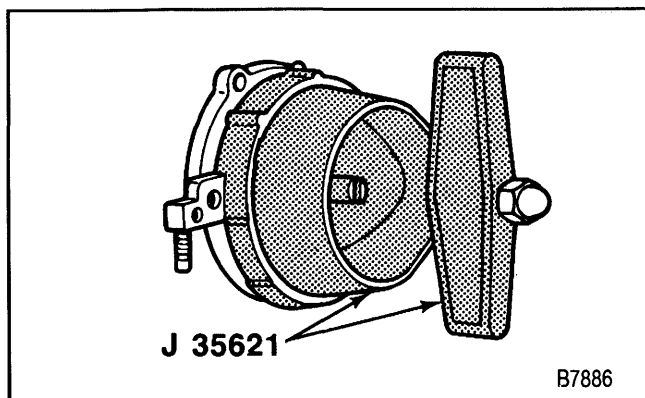

Figure 26—Installing the Crankshaft Rear Oil Seal
Install or Connect (Figure 26)
1. Crankshaft rear oil seal (figure 26).